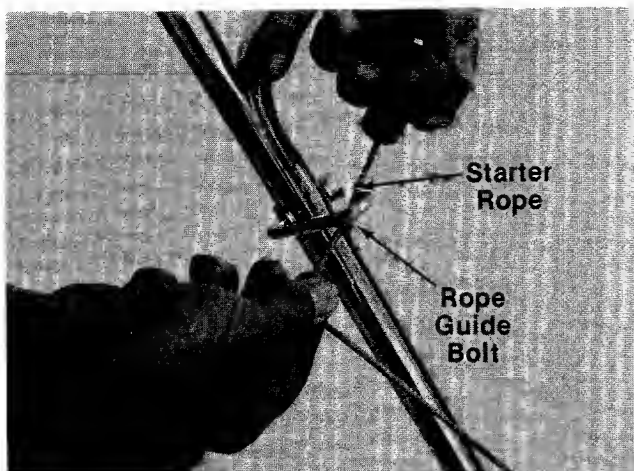

FIGURE 10.
15. Slip the starter rope into the rope guide bolt as shown in figure 10.